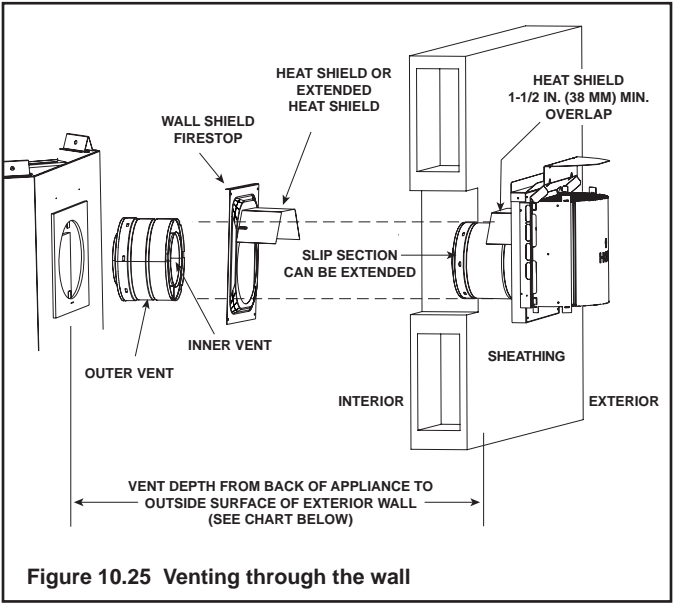

Figure 10.25 Venting through the wall
- **DO NOT** remove the heat shields attached to the wall shield firestop and the horizontal termination cap (shown in Figure 10.25).
There are two sections of the heat shield. One section is factory-attached to the wall shield firestop. The other section is factory-attached to the cap. See Figure 10.25.